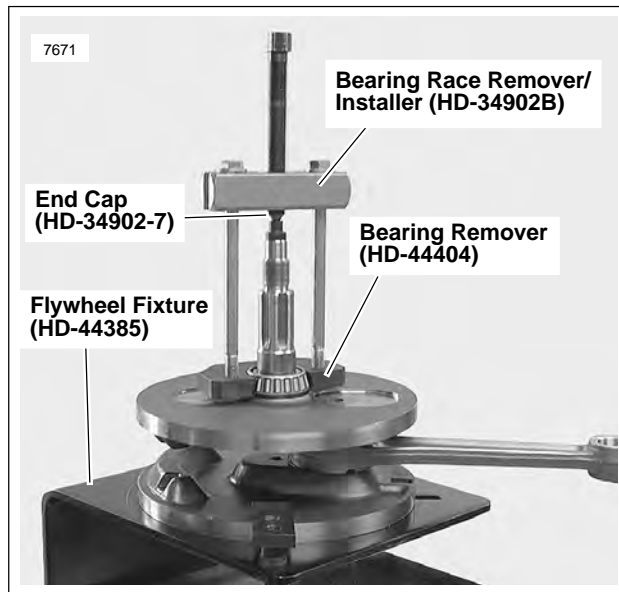

Figure 3-118. Removing Sprocket Shaft Roller Bearing
11. See Figure 3-118. Place flywheel assembly in FLYWHEEL SUPPORT FIXTURE (Part No. HD-44385). Pull sprocket shaft bearing with SPROCKET SHAFT INNER TIMKIN BEARING REMOVER (Part No. HD-44404) and BEARING RACE REMOVER/INSTALLER (Part No. HD-34902B).